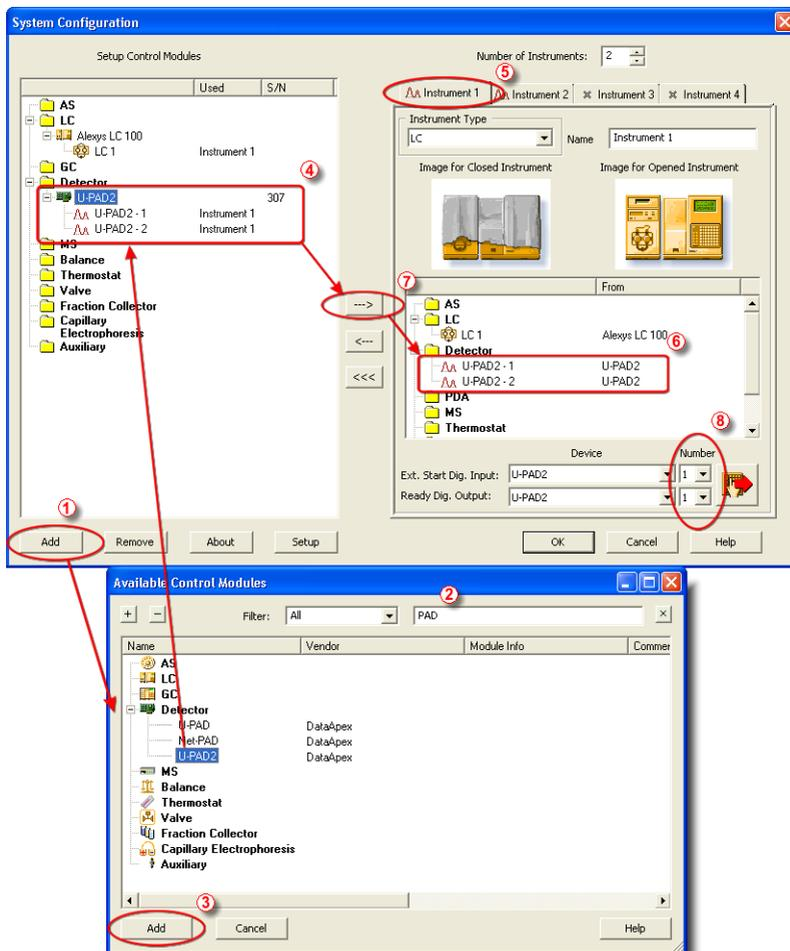

Fig. 8: System Configuration
- Press the *Add* button ① (See Fig. 8 on pg. 9.) to invoke the *Available Control Modules* dialog.
- You can specify the searching filter ② to simplify the finding of the driver.
- Select the **U-PAD2** and press the *Add* ③ button.
Note: The input used for an external start from a chromatograph can be set in the *System Configuration* dialog, see **Fig. 8** on pg. **9**.